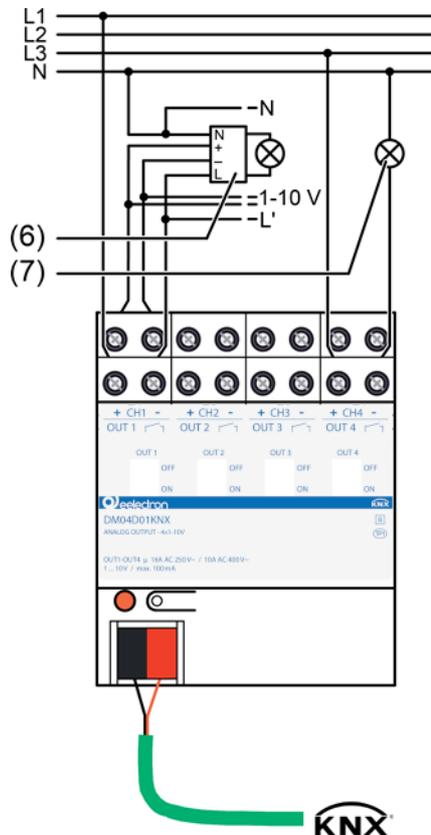

Figure 2
- o Connect the lamp operating devices (6) and optional additional consumers (7) according to the connection diagram (Figure 2).